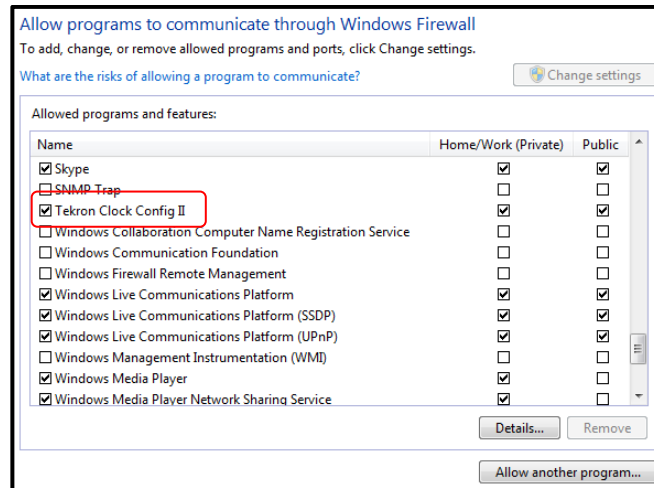

Figure 92 - Configuration software added to allowed programs list
9. Click the “Add” button. “Tekron Clock Config II” should now appear in the allowed programs list. Refer to Figure 92.